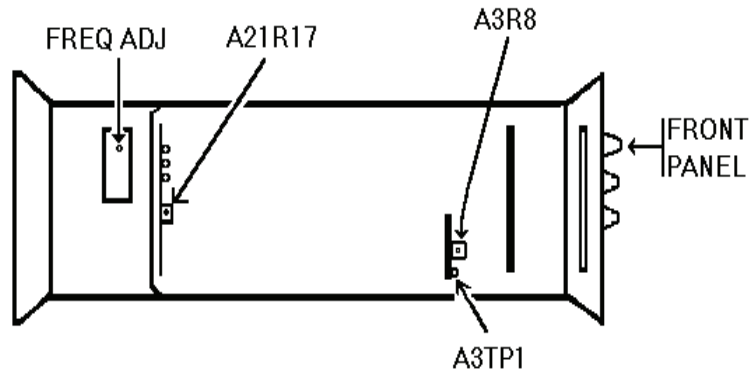

Figure 2. TD-1225A(V)1/U (Hewlett-Packard, Model 5342A/H14), TD-1225A(V)2/U (Hewlett-Packard, Model 5342A/H16), and Hewlett-Packard, Model 5343A - top view.
- (1) Set function generator frequency to 1 MHz and amplitude to 200 mVp-p.
- (2) Decrease function generator amplitude while adjusting A3R8 (fig. 2) to a point where TI no longer counts (R).
- (3) Verify that sensitivity is at least 35 mVp-p.
- b. Adjustments.** Adjust A21R17 (fig. 2) for -5.2 V dc indication on multimeter (R).